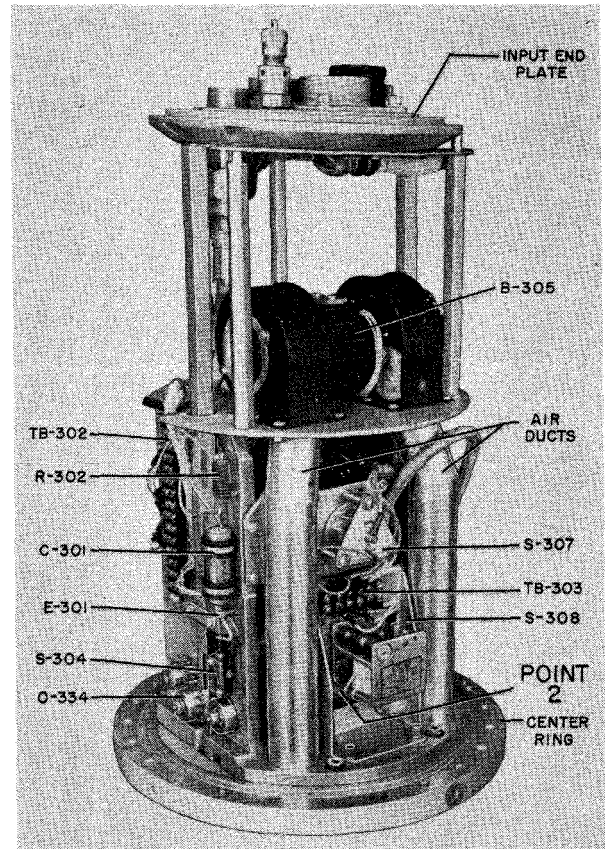

Figure 7-108. R-F Tuner TN-229/SRT, Drive Section, Air Duct Side
(See figure 7-108.)
Step 7. Unsolder leads between impedance transformer Z-301 and contact buttons of switch S-308; see POINT 2 on figure 7-108. Remove assembly from casting.